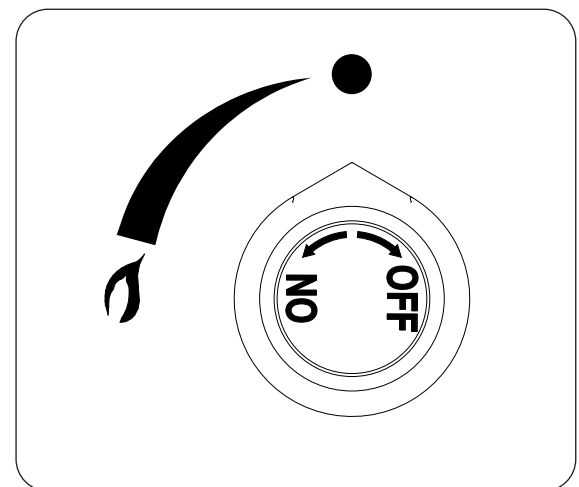

Fig. 39-2
4. **Once the flame is in position**, turn the gas control knob counter-clockwise to the **ON** position, depress, and hold for 15 seconds (see Fig. 39-2). Your burner should light within 5 seconds.
**To extinguish your gas burner**, turn the gas control knob clockwise to the **OFF** position (see Fig. 39-2). Be sure the control knob is turned fully off to avoid any gas leakage.